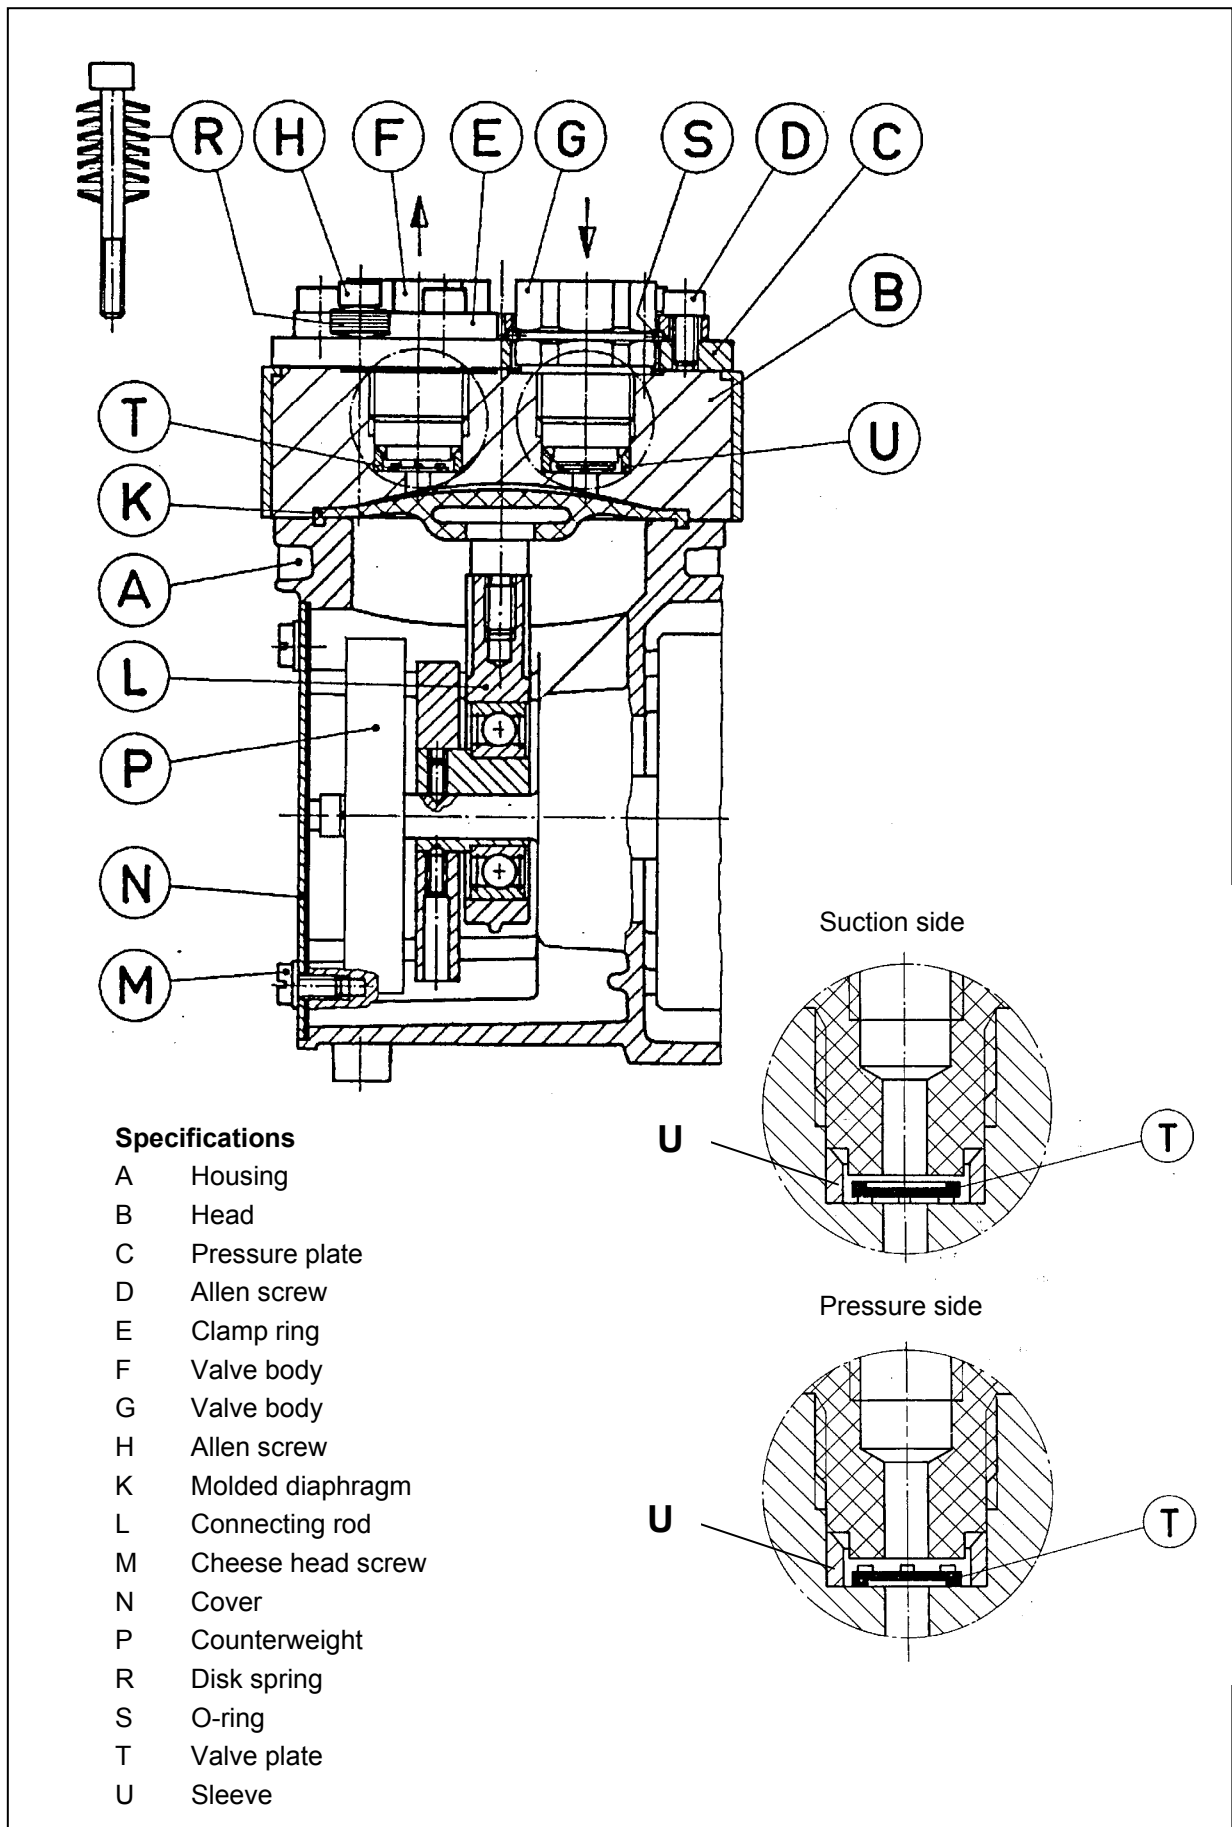

Fig. 4: Pump parts
\*\* According to Fig. 4.
**i** The position letters in the following text refer to fig. 4.
2. Take sleeve U out of both holes of head B and put one new sleeve into each hole. For the position of sleeves see detailed view in Fig.4.
- i** Observe the correct position of the valve plates (see detailed view in Fig. 4):
\*according to Fig. 4